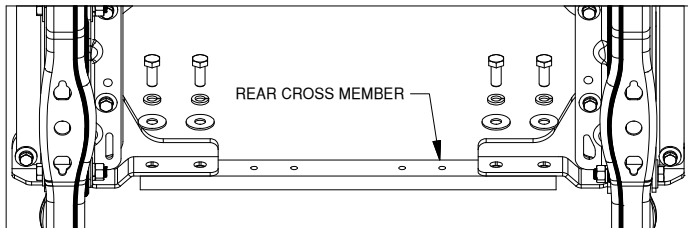

Figure C2: Bottom of truck frame looking up from under the cab towards the back of the truck.
2. **Install rear cross member.** Attach the rear cross member to the cross member brackets as shown in Figure C2 with 5/8" x 1-1/2" bolts, lock washers, and flat washers.